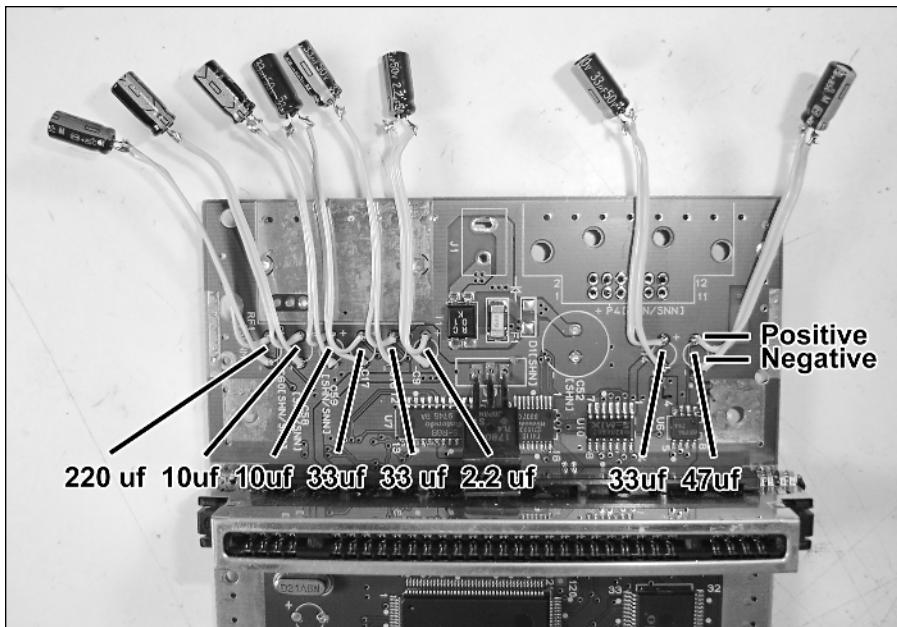

FIGURE 9-8: Reconnecting the eight capacitors.
2. The eight capacitors are all different, but luckily, their rating is listed on each of them as a "uf" number. Figure 9-8 shows where to reconnect them based on these numbers. Use a two-strand of 2" ribbon cable for each. (Make sure that there are no stray strands flailing off the ends of the wires. These can cause short-circuits.)